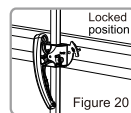

Figure 20
3. Hold the Adjustable uphold bar with your right hand, then press the Magic button with your left hand to lower down the Adjusting uphold bar to down most point. (Figure 20)